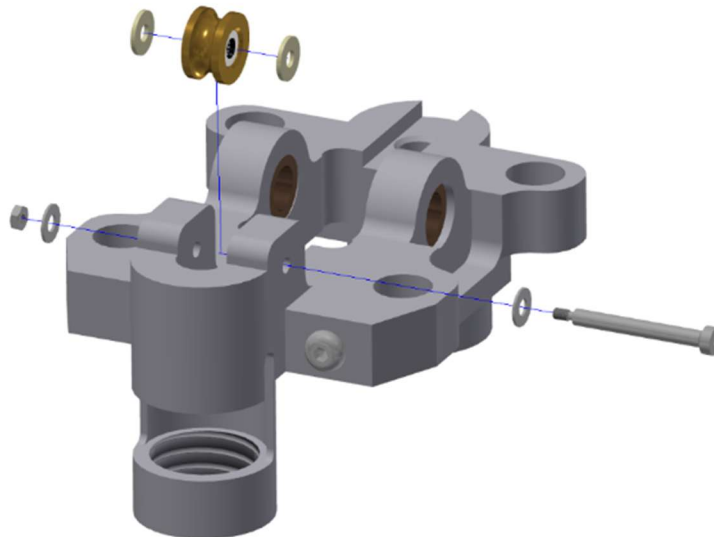

Figure 4-41. Install the Rear Cable Pulley Assembly (474-2308)
- 4.3.11 Install the Rear Cable Pulley Assembly (474-2308) onto the Head/Neck Mounting Platform (474-2302-A). Two PTFE M3 Flat Washers go on either side of the pulley. Two SS M3 Flat Washers will be installed on either side of the head/neck mounting platform (474-2302-A). Thread the M3 X 25 Precision SHSS SS through the assembly and fasten with an M2 X 0.4 Hex Nut on the other side (Figure 4-41).